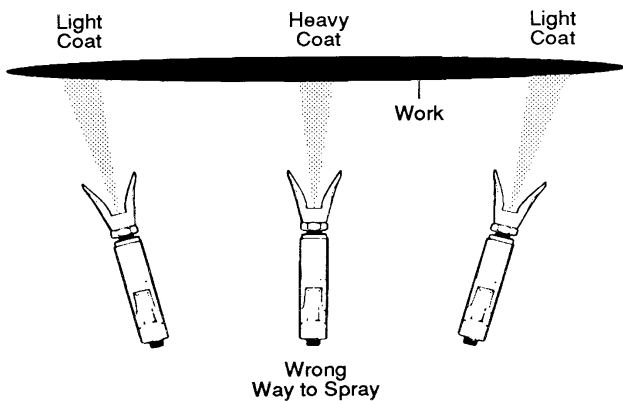

Figure 25 - Result of Flexing Wrist While Spraying
3. As much as possible, keep the spray gun at right angles to the surface. This means moving your entire arm back and forth rather than just flexing your wrist. See Figures 25 and 26.